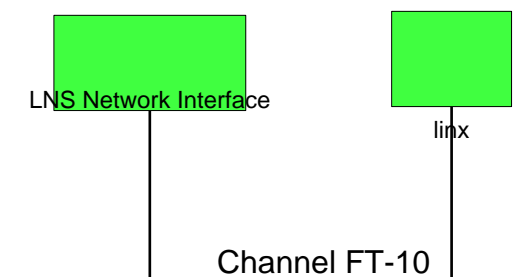

Figure 85: The L-INX has been added to the drawing.
10. Finally, you should get the device added to your drawing as depicted in Figure 85.